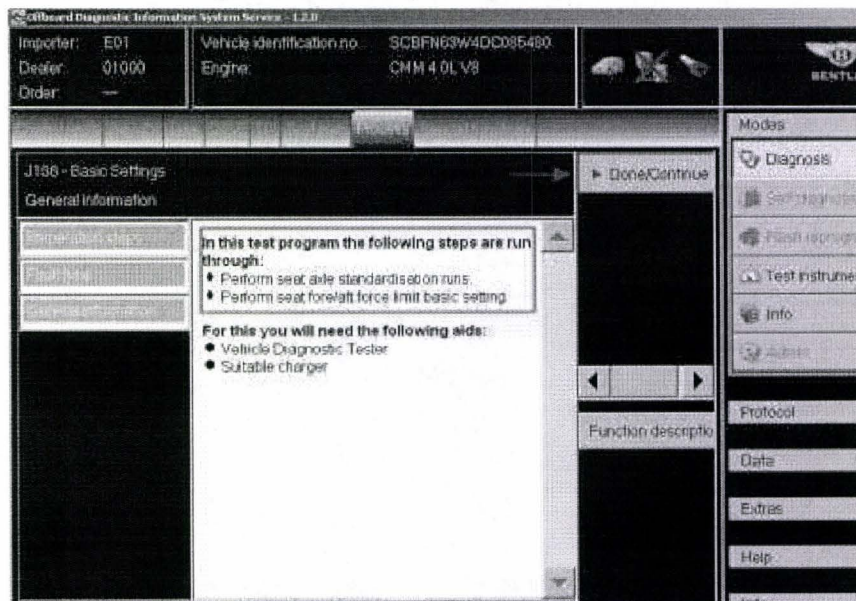

Figure 4
11. Select *Done/Continue* (see Figure 4)